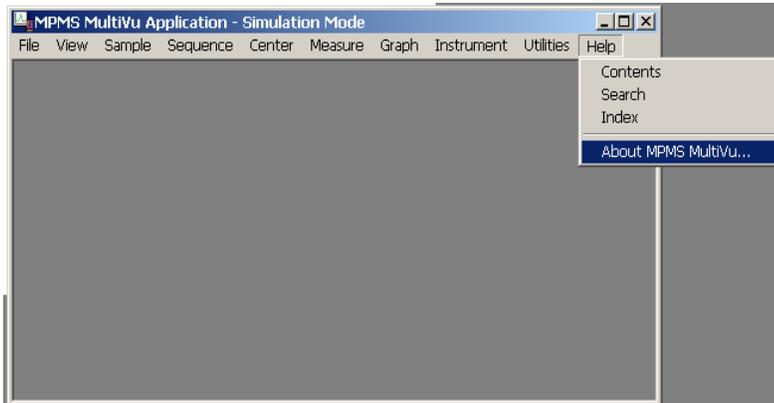

Figure 1. Dropdown Help menu in MPMS MultiVu
1. Open the dropdown **Help** menu in the MultiVu window and select **About MPMS MultiVu** (see Figure 1).